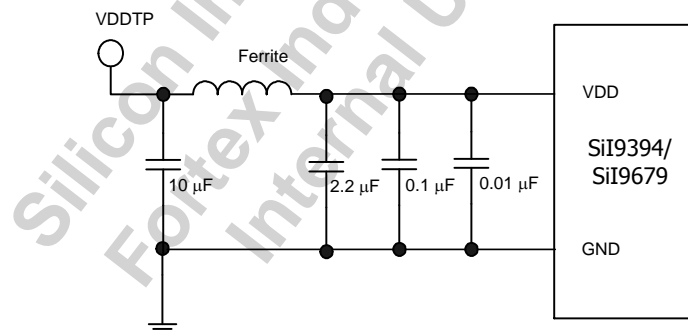

Figure 9. Test Point VDDTP for VDD Noise Tolerance Specification
2. The supply voltage noise is measured at test point VDDTP as shown in Figure 9. The ferrite bead provides filtering of power supply noise.